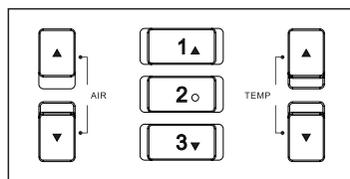

FIG. 1-6
1. Retrieving shortcut temperature: It can rapidly retrieving preset temperature and blowing restored in Button "1" / "2" / "3" by pressing Button "1" / "2" / "3" .(FIG. 1-6) when working.